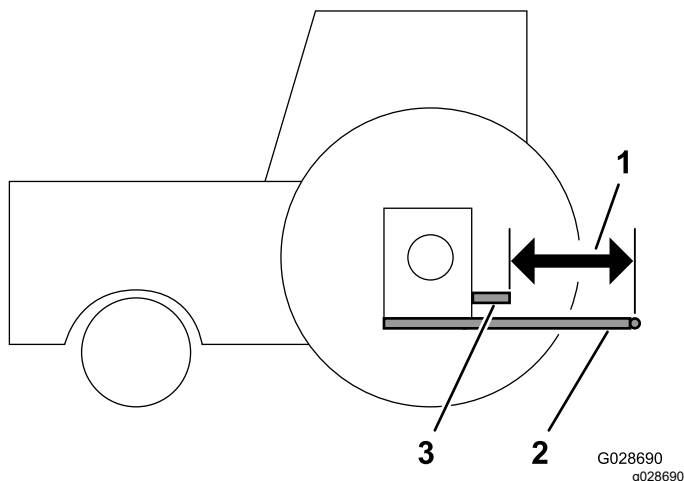

Figure 9
- Place a straightedge across the ends of the trailing arms to help you determine the distance between them and the end of the PTO output shaft (Figure 9).
the lower trailing arms (Figure 9). Record your measurement here: